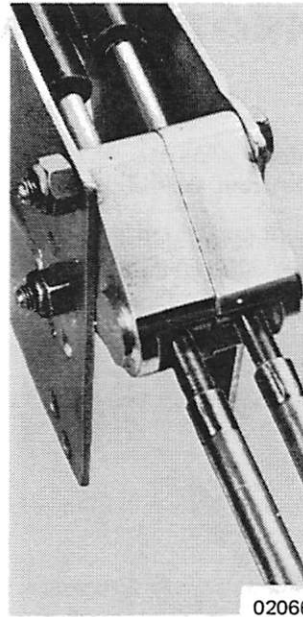

**Figure 1.**
1. Cable end guides are attached to rear end of control box levers with 1" screws. (Figure 1) (Outside mounting bracket was removed for clarification.)
4. Place brass barrel in spacer block halves (Figure 1) and fasten with screws and elastic stop nuts. (Figure 3)